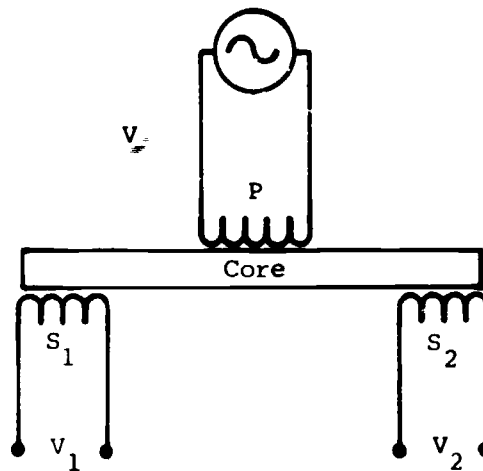

Figure 52.
The linear variable differential transformer (LVDT) is a displacement transducer which relies on changes in mutual inductance to produce a signal. The LVDT consists of a transformer with a single primary coil (P) coupled to two identical secondary coils (S_1 & S_2) by a movable core as shown in Figure 52.